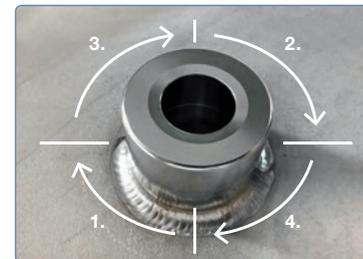

Figure 2
- b. Segmented welding (see figure 2):
- i. Welding of the first section (1)
- ii. Welding of the opposite section (2)